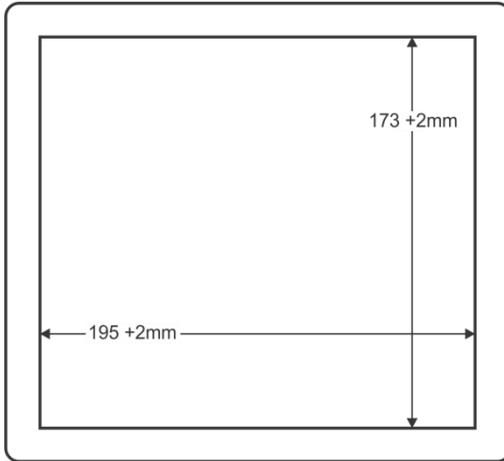

Figure 8: Cut Out Dimensions
3. Following the **inside** edge of the template, cut a hole in the table surface with a sabre or keyhole saw according to the dimensions shown in Figure 8 (not to scale).